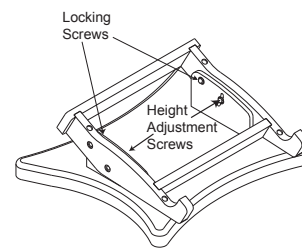

Figure 12
1. Using an appropriate tool, loosen the hex head screws on the insides of the XCS1K Cradle. Refer to figure 12.